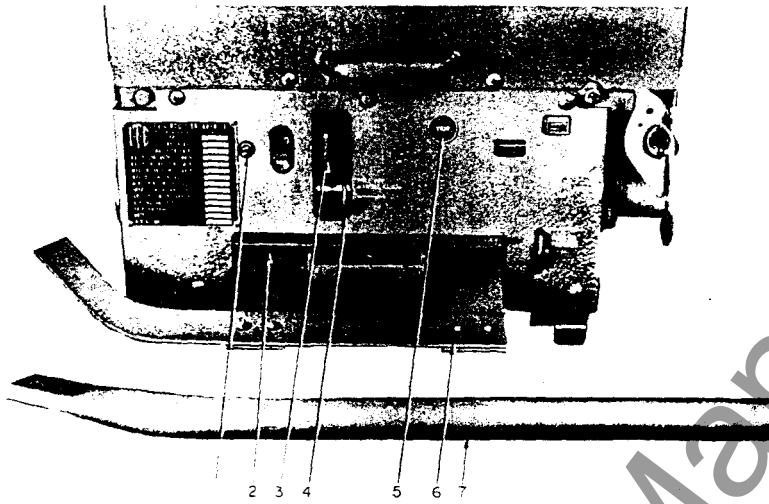

Fig. 1—Front View of Control Panel
(See Fig. 1)
1. Manual Slow Close to Check Contact Pressure (See Fig. 1)
- a. Engage the manual charge handle (7) with the charging lever (3). Pump charging lever until the breaker closing springs are heard to snap into the charged position.
- b. Insert **both** tangs (2) of the spring retainer bracket (6) into the holes provided in the closing spring tubes.
- c. Pull the manual close lever (4) to discharge closing springs on to the tangs (2) of the spring retainer bracket (6).
- d. Engage manual charge handle (7) with the charging lever (3) and pump to slow close the breaker contacts. Check contact pressure as given on page 8.
- e. Push the manual trip button (5) to trip breaker.
- f. To remove spring retainer bracket (6), continue pumping until closing springs are again heard to snap into the charged position.
- g. Remove spring retainer bracket (6) from circuit breaker.
- i. To discharge springs, pull manual close lever (4) and push manual trip button (5).
1. Observe the circuit breaker condition through the sliding panel (2) opening or by opening the compartment door (1).
2. Circuit Breaker Conditions (See Fig. 1).
a. To completely uncharge circuit breaker, manually charge closing springs by means of the manual charge lever (3) and pull the manual close lever (4) by means of a lanyard from a safe distance.
b. For charged springs, pull the manual close lever (4) by means of a lanyard from a safe distance.
c. For partially charged closing springs, should closing not occur upon pulling the manual close lever, continue charging until closing springs are completely charged (heard to snap); then pull manual close lever (4) by means of a lanyard from a safe distance.